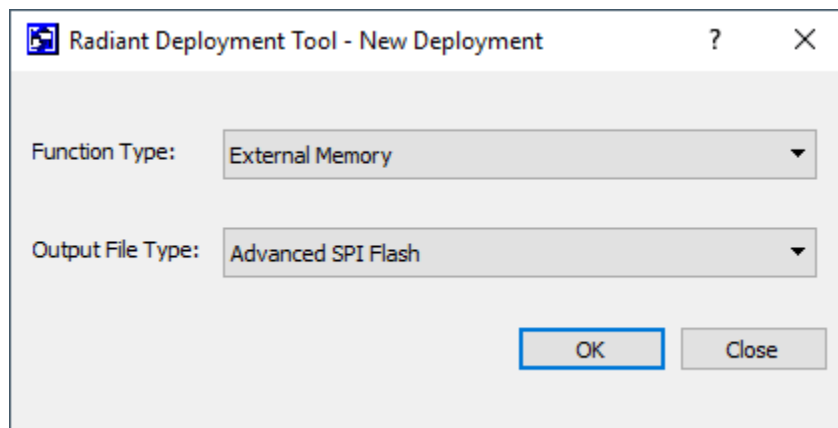

Figure 6.11. Creating New Deployment for Multi-Boot
- In the Radiant Deployment Tool window, select External Memory as the Function Type and select Advanced SPI Flash as the Output File Type (Figure 6.11).